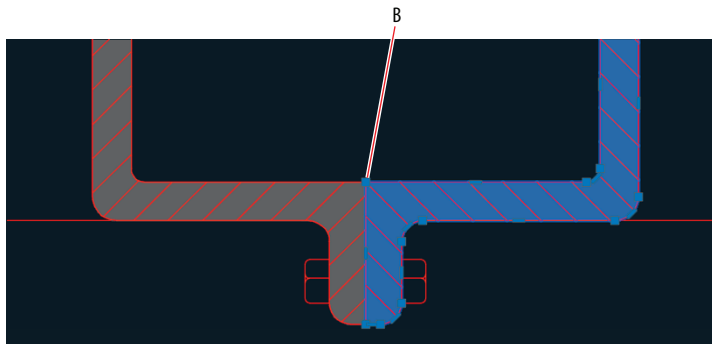

FIGURE 8.17 Setting the origin of the inner-right pattern
7. Click the Set Origin button, and click point B in Figure 8.17. Press Esc to deselect.
8. Select the inner pattern on the left. Click the Set Origin button, and click point B in Figure 8.17. Press Esc to deselect.